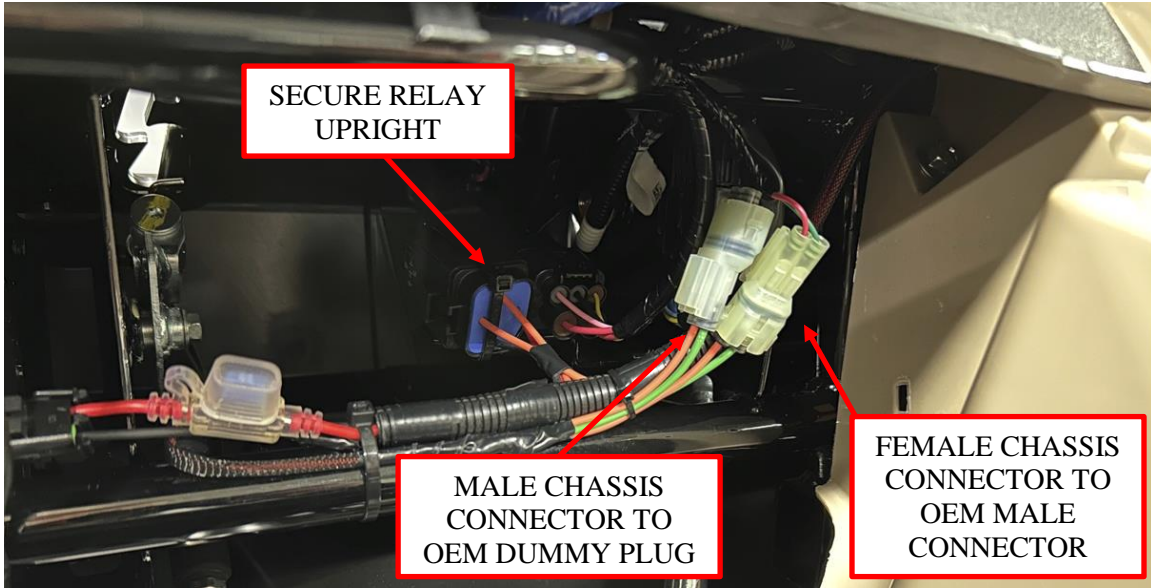

Figure 10: Loosely secure the harness and connect the ignition connectors.
11. Loosely zip tie the chassis harness across the frame tube in the approximate location shown. The female chassis connector will replace the dummy plug on the OEM male accessory connector. The male connector on the chassis harness can then hold the OEM dummy plug. See Figure 10. Note: Secure the relay upright as shown.